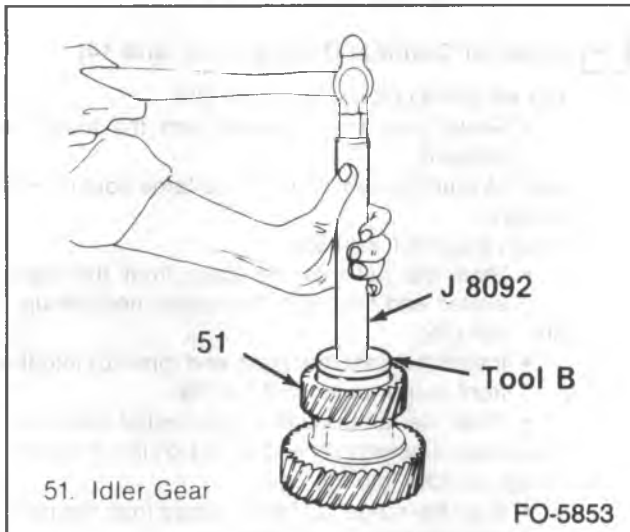

Figure 9—Installing the Bearing Cup
1. Two bearing cups (50) in the idler gear (51) using Tool-B and J 8092 (figure 9).
2. Two bearing cones (50), spacer (52), shims (53), and idler gear (51) on J 23429 with the bore up.